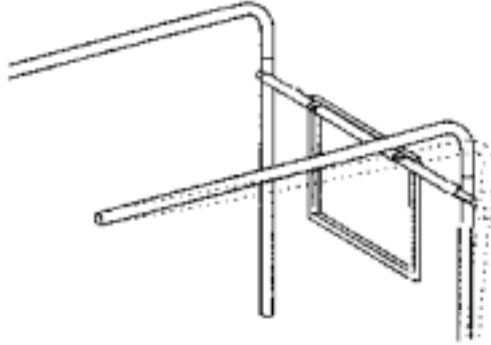

Figure 8. Arch Spacer Installation.
11. Install arch spacers, as shown in Figure 8, between the center arch and its two adjacent arches. Slide an arch away then back to push the stub inside the spacer.
**CONTAINERIZED KITCHEN (CK)
10. Starting at the corner nearest the mechanical room, install two arch spacers, as shown in Figure 8, between the first two sets of adjacent arches. Slide an arch away then back to push stub inside spacer.